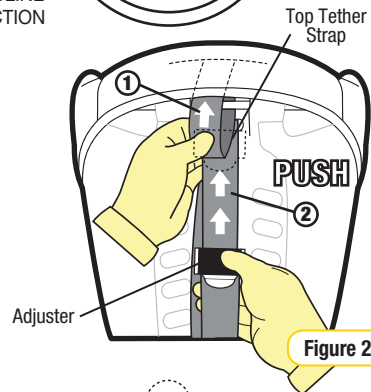

Figure 2
**Step 1:** Pull excess strap through the top section ① whilst feeding the adjuster section ② towards the seat (see Figure 2).